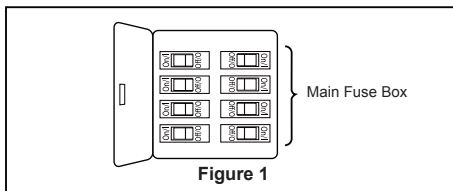
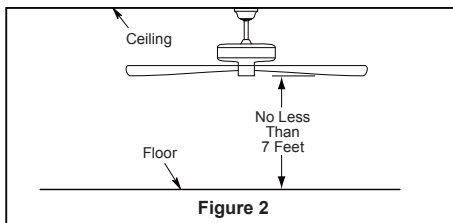
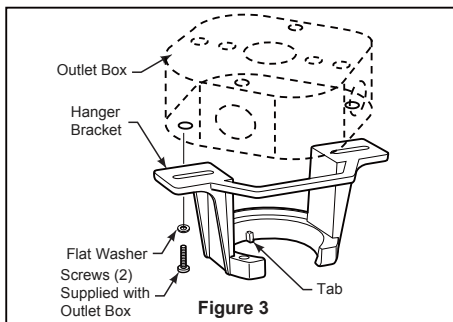

Figure 1
Figure 2
Figure 3
Your new ceiling fan will require a grounded electrical supply line of 120 volts AC, 60 HZ, 15 Amp Circuit. Electrical code requires use of a fan-rated outlet box to support the extra weight and motion associated with a ceiling fan. A fan-rated box will be labeled as such and typically supports up to a 70lbs ceiling fan. Fan-Rated Outlet Boxes vary in ratings and design. Ensure the ratings of your ceiling fan outlet box meet the requirements for the ceiling fan being installed. Figure 1, Figure 2 and Figure 3 depicts different structural configurations that may be used for mounting the outlet box.
Low profile box (Figure 1)
Deep box (Figure 2)
Deep box with brace (Figure 3)
1. Remove the three stabilizer tabs and plastic bag from the motor. Discard the stabilizer tabs. (Figure 1)
2. Remove the two set screws and locking nuts of the downrod support from the motor assembly then retain the screws and nuts for **How to Assemble Your Ceiling Fan**, Step 4. (Figure 2)
3. Remove the six preassembled screws of the motor coupler washer from the motor assembly, then retain the screws for reinstallation in Step 7. (Figure 3)
1. Remove the hanger ball portion from the downrod/hanger ball assembly by loosening the set screw in the hanger ball until the ball falls freely down the downrod. Remove the pin from the downrod, then remove the hanger ball. Retain the pin and hanger ball for reinstallation in Step 6. (Figure 1)
2. Remove the hairpin clip and clevis pin from the bottom of the downrod. Retain the pin and clip for reinstallation in Step 4. (Figure 2)
3. Route the black and white wires through the downrod. (Figure 3)
To avoid possible fire or shock, be sure electricity is turned off at the main fuse box before hanging. (Figure 1)
The fan must be hung with at least 7' of clearance from floor to ceiling fan. (Figure 2)
1. Securely attach the hanger bracket to the outlet box (not included) using the outlet box screws and washers supplied with the outlet box. (Figure 3)
1. To set the code on receiver unit, slide dip switches to the same positions as set on the remote. (Figure 1)
To avoid possible electrical shock, be sure electricity is turned off at the main fuse box before wiring. (Figure 2)
2. Slide the receiver into the hanger bracket. Connect green wires from hanger bracket, hanger ball and ground from supply using wire connector. Connect black wire from receiver unit marked "AC IN L" to black supply wire using wire connector. Connect white wire from receiver unit marked "AC IN N" to white supply wire using wire connector. Connect white wire from receiver unit marked "TO MOTOR N" to white wire from fan using wire connector supplied with receiver unit. Connect black wire from receiver unit marked "TO MOTOR L" to black wire from fan using wire connector supplied with receiver unit. (Figure 3)
1. Assemble canopy by rotating key slot in canopy over shoulder screw in hanger bracket, taking care not to pinch the wires. Tighten shoulder screw. Fully assemble and tighten second shoulder screw that was previously removed. (Figure 1)
2. Securely attach and tighten the canopy screw cover over the shoulder screws in the hanger bracket utilizing the key slot twist-lock feature. (Figure 2)
1. Disassemble the adapter-switch cup assembly by removing three screws. (Figure 1)
2. Remove one of the three screws in the support bracket at the bottom of the motor assembly and retain the screw for later and slightly loosen the remaining two screws. (Figure 2)
3. Assemble the switch cup adapter to the support bracket using the two key slots in the switch cup adapter. Replace the previously removed screw and securely tighten all three screws. (Figure 3)
1. **IMPORTANT:** Using a full range dimmer switch (not included) to control fan speed will damage the fan. To reduce the risk of fire or electrical shock, do not use a full range dimmer switch to control the fan speed. (Figure 1)
2. Restore electrical power to the outlet box by turning the electricity on at the main fuse box. (Figure 2)
3. To make fan operational, install 23A/12V battery (included) in hand-held remote transmitter, with fan power off. Then follow the remote code setting process. (If not used for long periods of time, remove battery to prevent damage to transmitter). Store the remote away from excessive heat or humidity. (Figure 3)
- ### 1. Installing Wall Holder: (Figure 1)